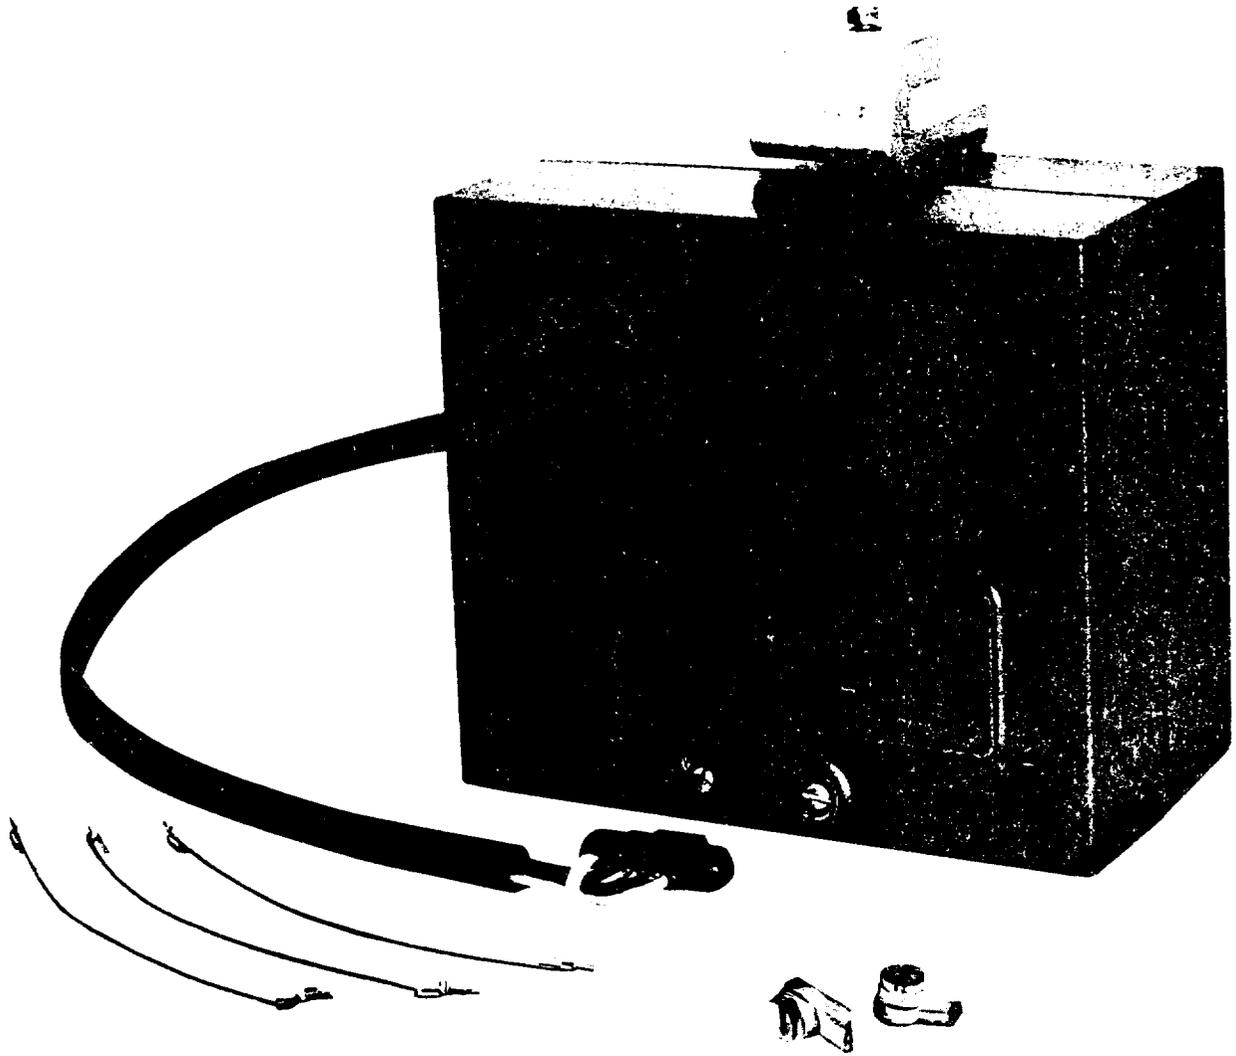

Figure 1. TonePulse Converter
2.03 The Model 104 TonePulse Converter (Figure 1) is a compact solid state device which measures 4" x 4½" x 2½" deep. The Converter can be, by means of the mounting bracket furnished with each TonePulse Converter, applied directly to the angle iron framework immediately behind the